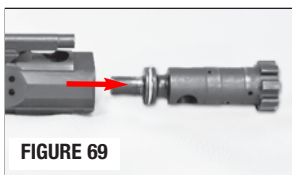

FIGURE 69
- Remove the bolt from the bolt carrier (FIGURE 69).